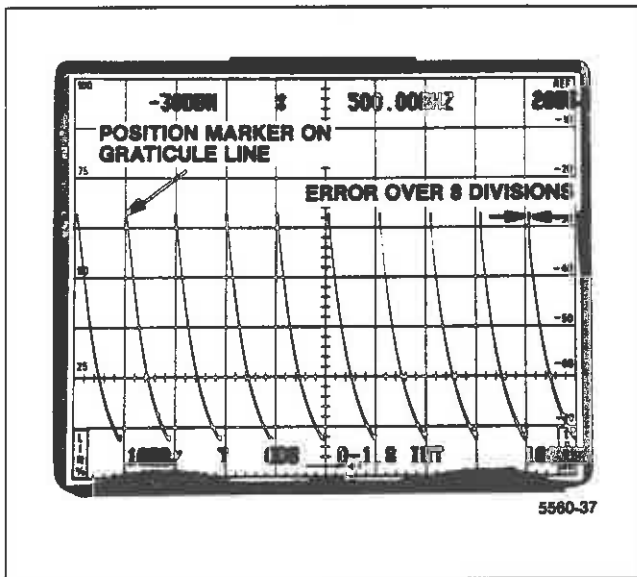

Figure 4-8. Typical display for measuring Time/Div accuracy.
d. Use the horizontal POSITION control to align a marker on the 1st graticule line (see Figure 4-8), then check the displacement of markers from their respective positions over the center eight divisions. Marker displacement must not exceed 5% over the display.